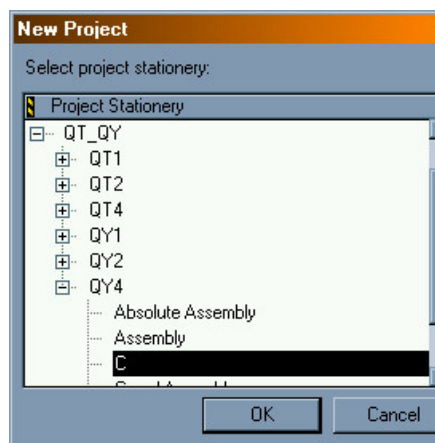

Figure 1-16. New Project Stationery Window
5. In the New Project Stationery Window, click on + by QT_QY to expand selections. See Figure 1-16.